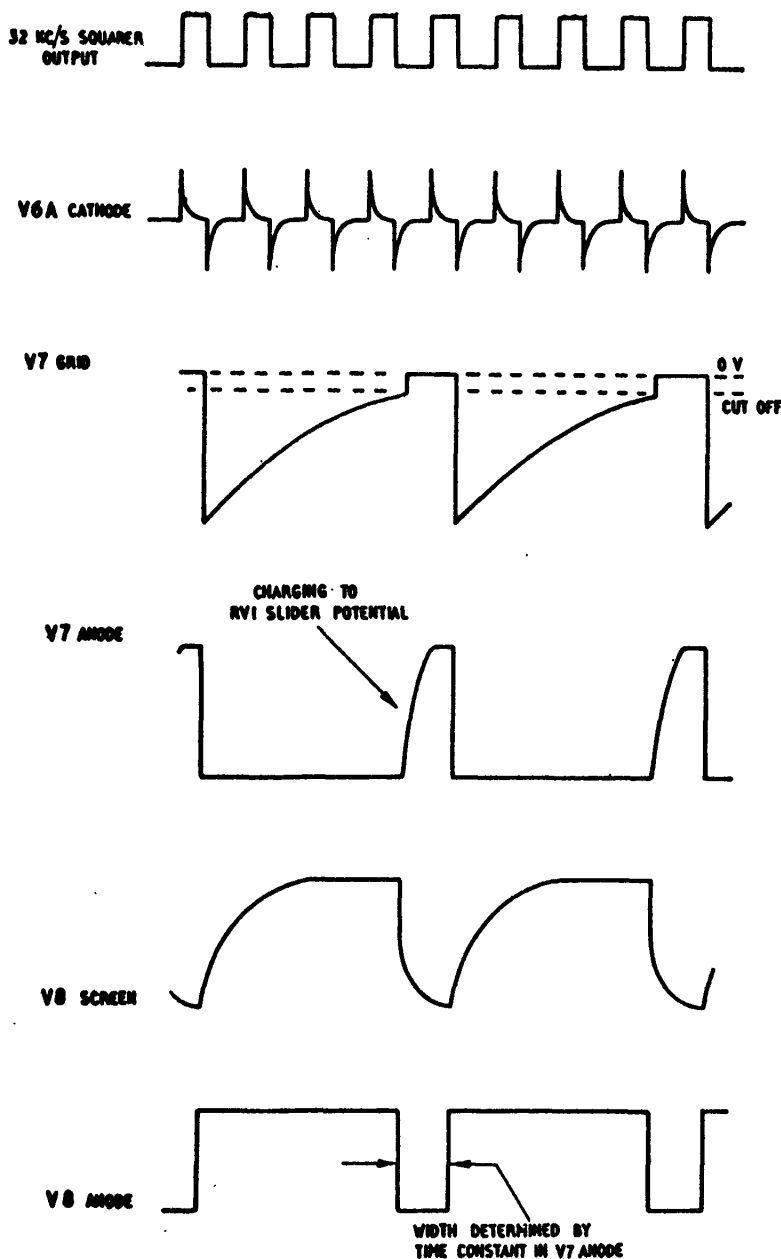

Fig. 7. Divider waveforms
19. When the first negative-going waveform (fig. 7), differentiated by C21 and R28, is fed to V6A's cathode, the negative-going voltage at the anode of V7 is taken via C25 to the control grid of V8 and, as a result, V8 draws less current. V8's screen grid potential starts to rise. This rise is conveyed by C26 to V7 control grid, lifting the bias on V7. The anode potential of V7 drops, taking the grid of V8 still further negative until, by cumulative action, which is very rapid, V8 is cut off and the flip-flop is then in its unstable state. It should be noted that V6A isolates the divider from the squarer output circuit as it cuts off on the advent of the first negative-going edge.